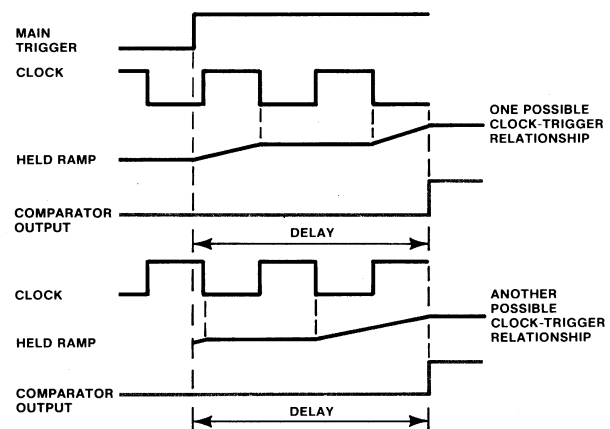
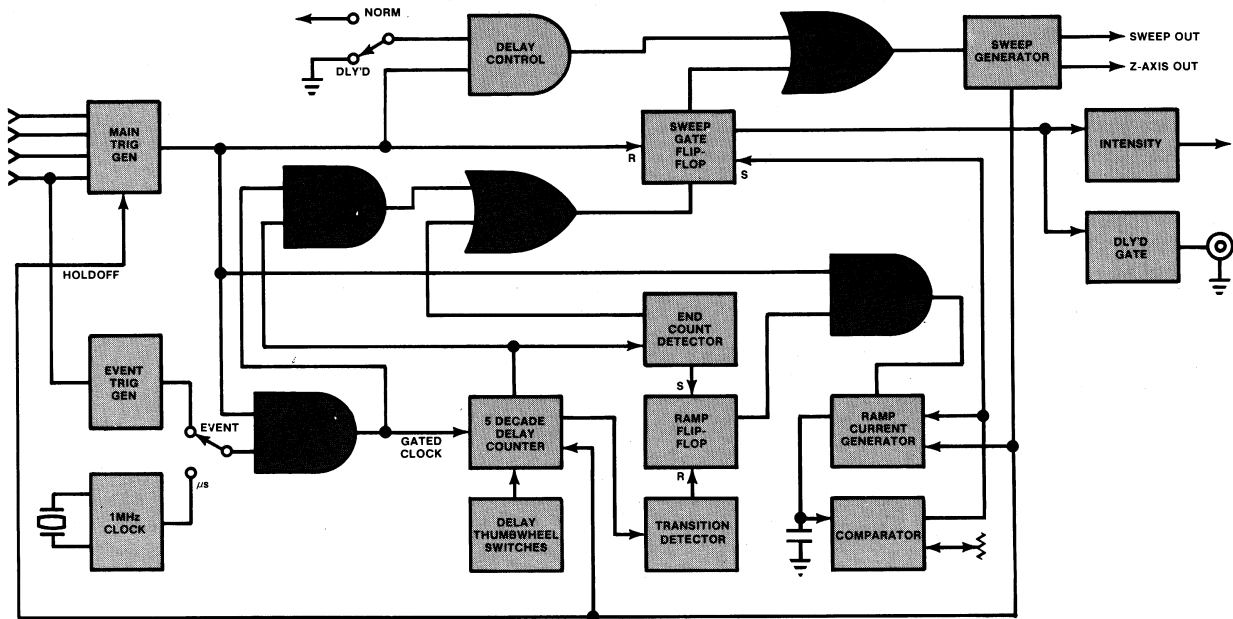

Fig. 2. Diagram illustrating how held-ramp operation accommodates differences in the clock-trigger relationship to reduce jitter to 10 ns or less.
Fig. 3. Simplified block diagram of the 5B31 Digitally Delayed Time Base.
**Fig. 2.** The TEKTRONIX 475 with DM40 or DM43 provides analog sweep delay with LED readout. The readout is set to zero at start of the delay and the readout shows the delay time when the DELAY TIME POSITION control is set to the end of delay. No calculations are necessary.
trigger and the first count. Figure 2 shows the relationship between the main trigger, the clock and the held ramp. The simplified block diagram in Figure 3 shows the major circuit elements used in generating the held ramp, and achieving digital delay.